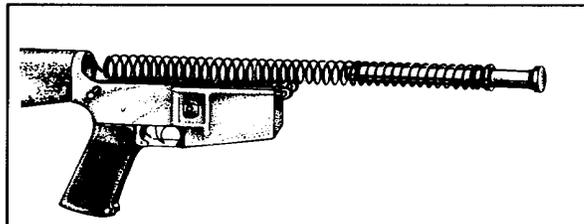

Figure 10-24. Placing the Spring and Buffer
- a. Insert the spring and buffer (figure 10-24).